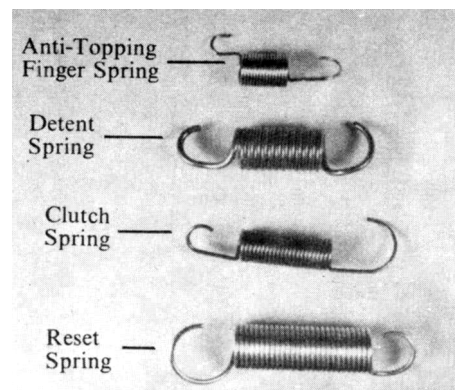

Figure 21. Spring Identification
- See Figure 21 for identification of springs.